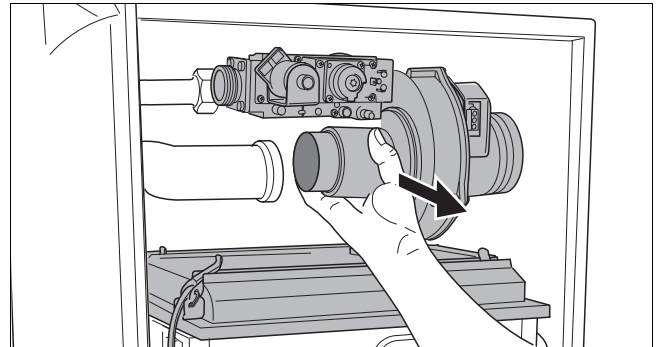

fig. 7 Removing the burner cover with the gas/air unit
- Remove the burner cover together with the fan unit and the gas valve (fig. 7).